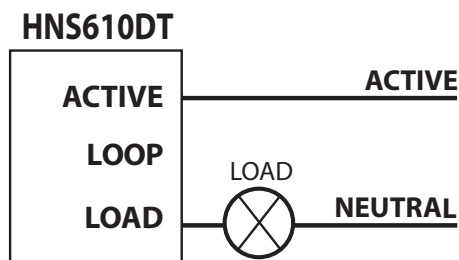

Figure 1: HNS610DT Wiring Diagram
- Install the HNS610DT as per the wiring diagram in Figure 1.